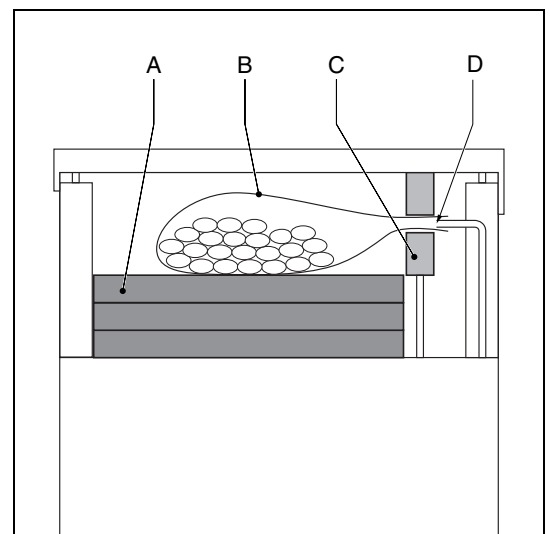

Fig. 7-1: Packing
3. Put the product in a vacuum bag. (Fig. 7-1).
4. Remove or position one or more inlay plates to adjust the height of the product correctly. (Fig. 7-1-A).
5. Put the vacuum bag (Fig. 7-1-B) with the product in it in the vacuum chamber.
- Position the opening of the bag, without folds, on the seal beam (Fig. 7-1-C). Make sure that the opening of the bag does not stick out the vacuum chamber.
- With a machine with gas-option, the opening of the bag must be pushed properly over the gas outlets (Fig. 7-1-D).